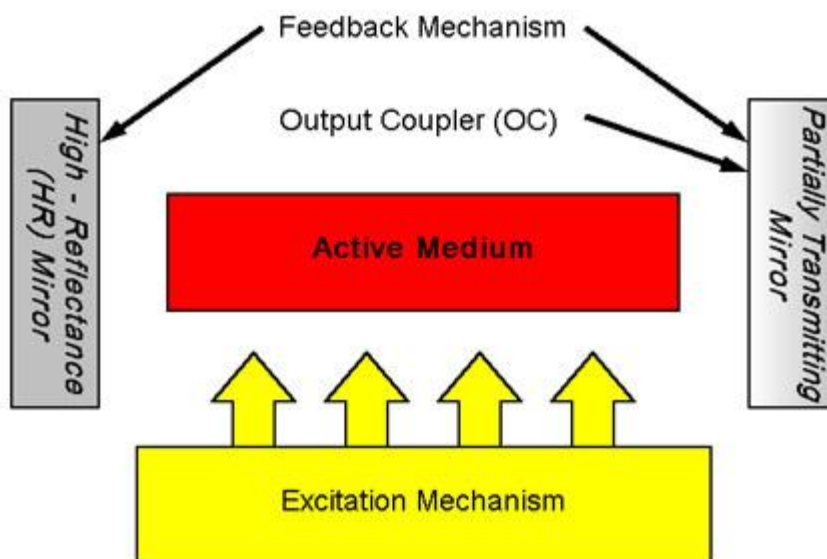

Fig. 12
(33) Four functional elements are necessary in lasers to produce coherent light by stimulated emission of radiation. Figure 12 illustrates these four functional elements.